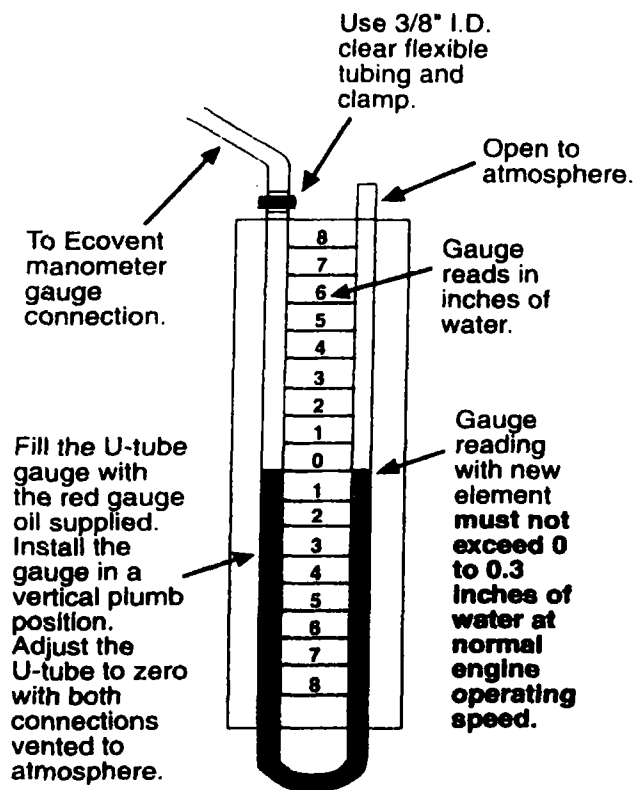

Figure 7 • U-tube Manometer Gauge Reading With New Filter Element
6. Install a control valve on the hose used in Step 5, then attach the end of the hose directly to the engine's air intake ducting and secure with a hose clamp. You can attach the hose either before or after the engine's air filter. The control valve is used to regulate the maximum 0" to 0.3" H₂O positive pressure reading for the new EcoVent element. See figure 7. Do not adjust this valve after you have properly set it to achieve the 0" to 0.3" H₂O positive pressure reading.
With the EcoVent's outlet hose connected, along with the control valve, directly to the engine air intake ducting, simply adjust the control valve so that the vacuum created by the air flow is 0" to 0.3" H₂O positive pressure reading on the U-tube manometer gauge. See figure 7. At normal operating speed a new EcoVent unit must not have more than 0.3" H₂O positive pressure!